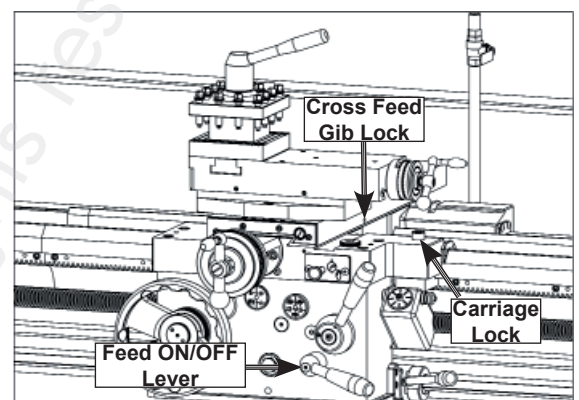

Fig. 48 Carriage lock and gib lock
If the threading or general carriage feed is required, the carriage lock (figure 48) must be disengaged. If the cross feed will be used for facing, the carriage lock should be engaged and the cross feed gib lock screw (figure 48) should be loose. If it is tight, loosen the cross feed gib lock using a 3 mm hex wrench.
3. Push down on the feed ON/OFF lever (figure 48) on the front of the apron to engage power feed for either the carriage or the cross slide.